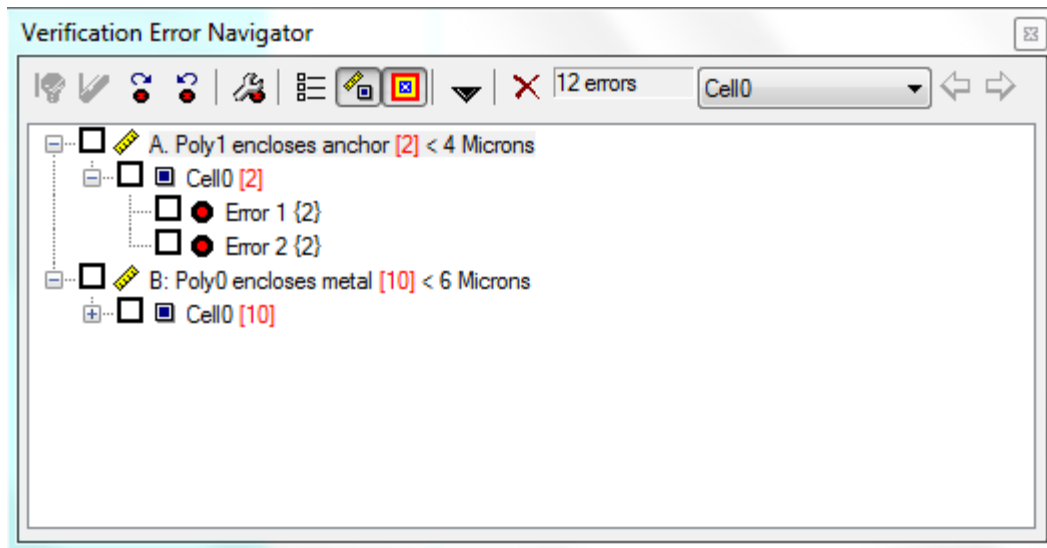

Figure 64: Expanding the tree in **DRC Error Navigator**.
- ☑ To locate errors, expand the tree in the **Verification Error Navigator** dialog (Figure 64).